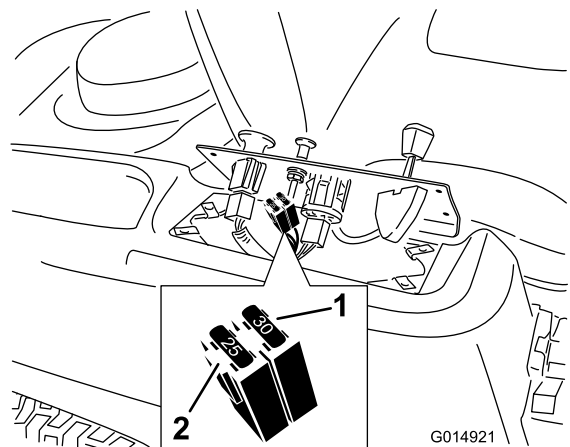

Figure 42
2. Lift the control pane up to access the main wiring harness and fuse block (Figure 42).
3. To replace a fuse, pull out on the fuse to remove it (Figure 42).